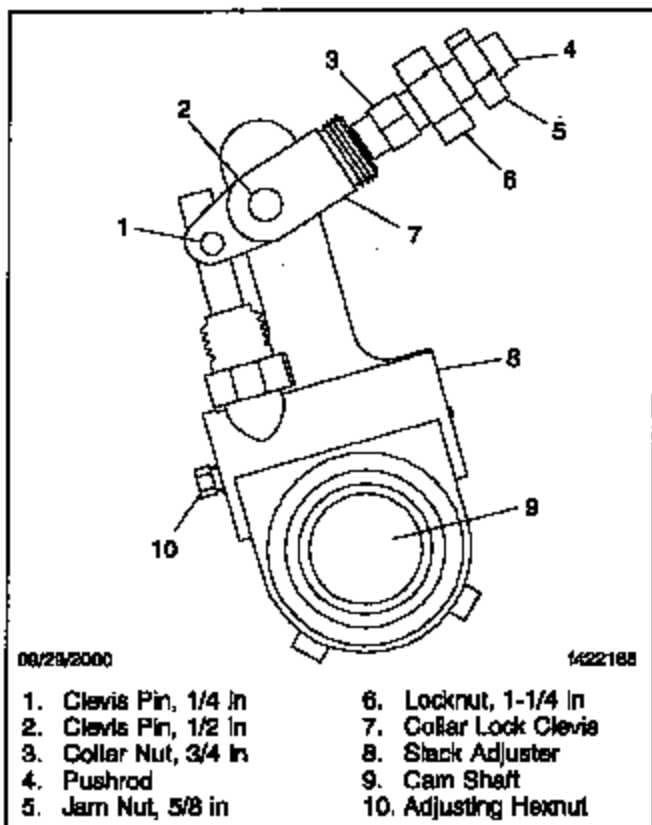

Fig. 3, Slack Adjuster Installation
1. Place the 1-1/4-inch locknut on the brake chamber pushrod against the 5/8-inch jam nut. See Fig. 3.